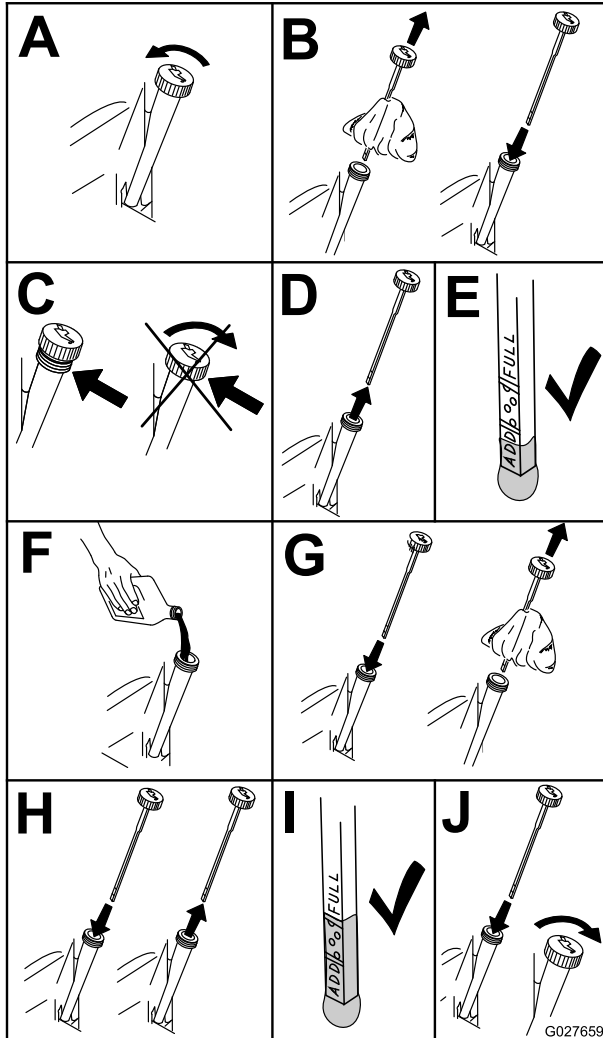

Figure 48
- Stop the engine, remove the key, and wait for all moving parts to stop before leaving the operating position (Figure 48).